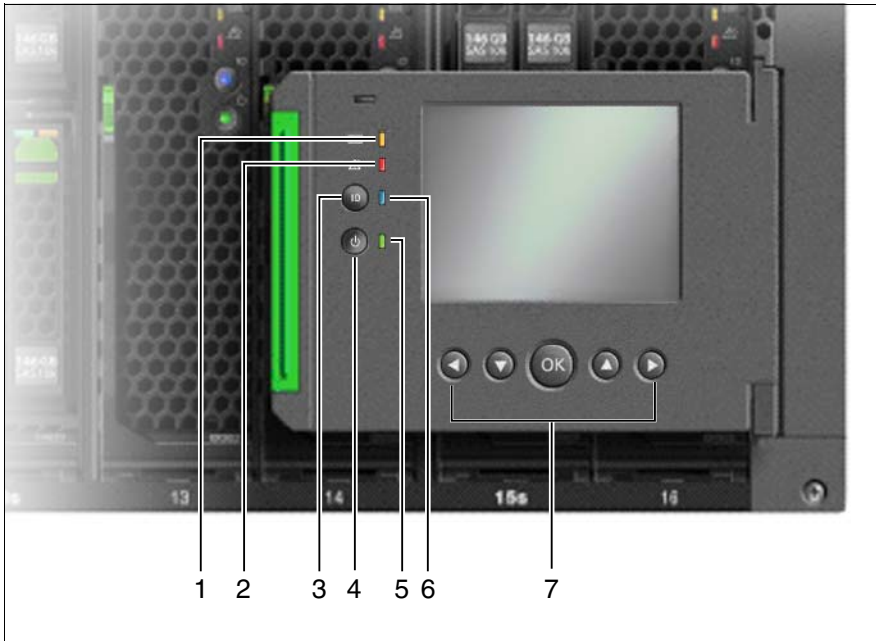

Figure 14: Control and display elements on the front of the ServerView local service panel
- ▶ Press the On/Off button on the system unit (position 4 in figure 14 on page 60) for 2 seconds. Depending on the BIOS setting, the individual server blades will also be switched on. This is done in sequence according to the numbering of the server blade slots (see figure 19 on page 83.)
- ▶ To **properly shut down** all server blades, press the On/Off button on the front of the system unit (position 4 in figure 14 on page 60) for 4 seconds. All server blades will then be shut down.
- ▶ To **immediately shut down** all server blades, press the On/Off button on the front of the system unit (position 4 in figure 14 on page 60) for 10 seconds. All server blades are switched off immediately.
- ▶ Press the On/Off button on the ServerView local service panel (position 4 in figure 14 on page 60) to switch on the system unit.